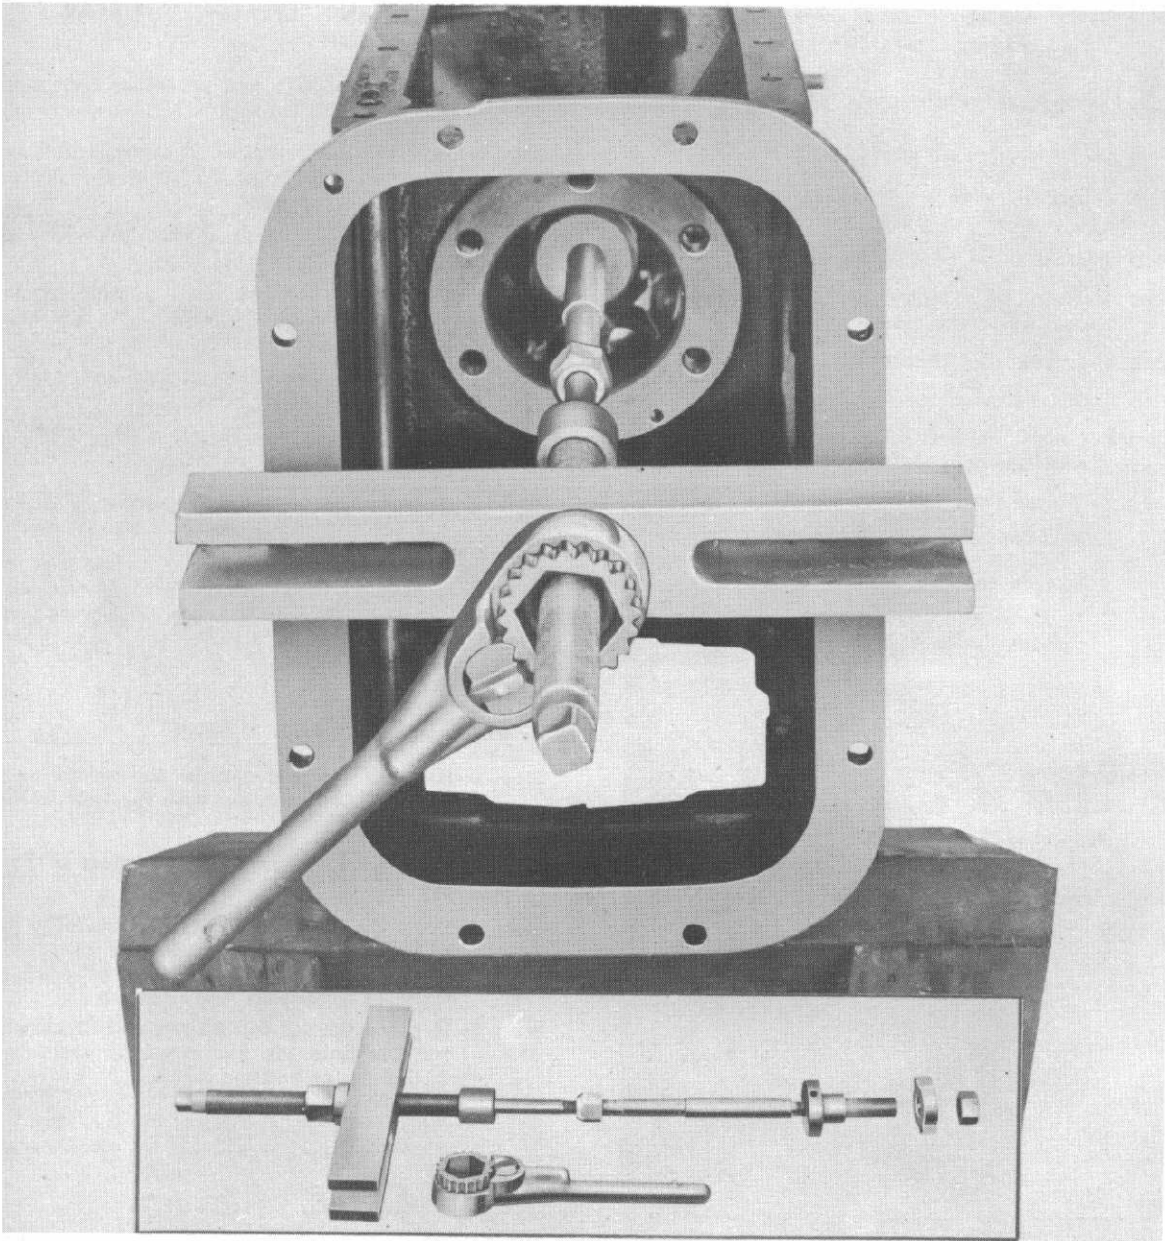

Fig. 9
Step 4—Remove the rear pinion bearing as shown in Figure 9, using the tools shown in the inset of Figure 9.